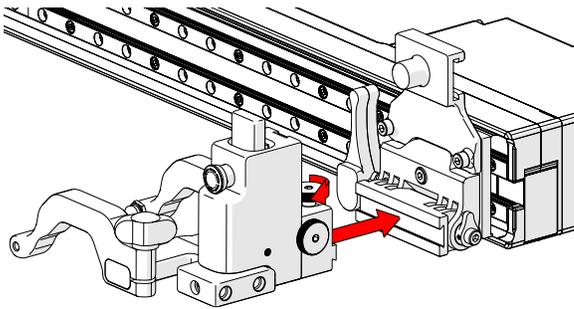

Fig. 106 - Mount probe holder to carrier
1. Loosen the probe holder adjustment knob (*Fig. 106*) and mount the heavy duty vertical probe holder's dovetail jaw to the carrier.